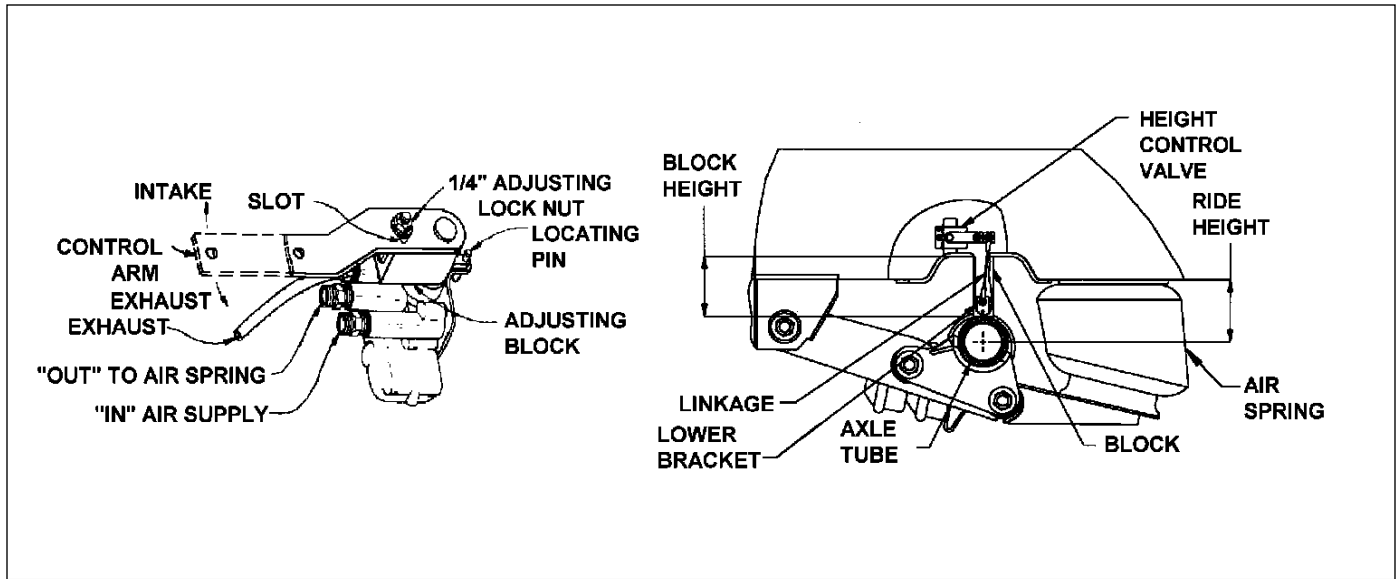

Figure 4-4: Air Ride Height Adjustment
(See Figure 4-4 for parts identification).
2. Disconnect linkage at the control arm and raise control arm to the "up" position, raising the trailer until a block can be placed between axle tube and undercarriage frame (See Figure 4-4.)
6. Loosen the 1/4" adjusting lock nut located on the adjusting block, allowing the control arm to move approximately 1 inch. Move the adjusting block until holes align, then insert locating pin (See Figure 4-4.)